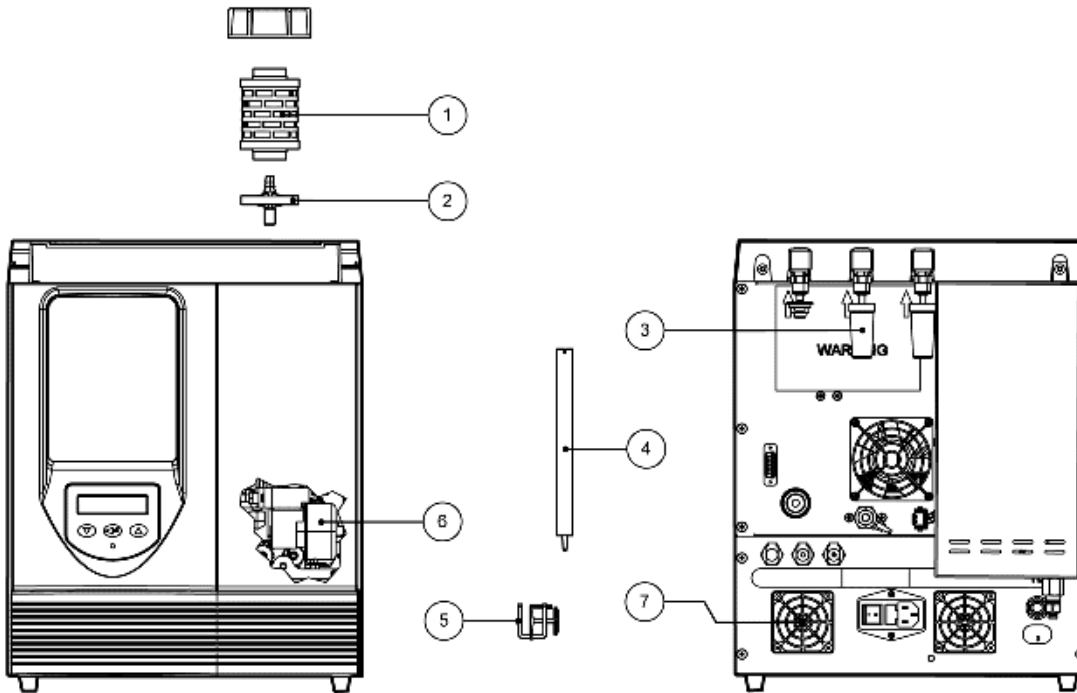
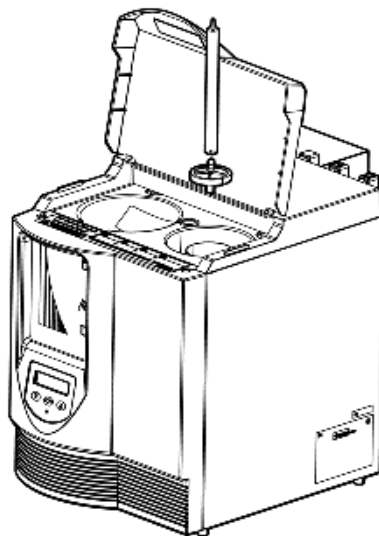

Figure 18
Figure 20
Wearing disposable gloves, remove the deionizer cartridge (figure 18, item 1) and discard. Extract the 100 micron water filter (figure 18, item 2) using the H2 filter replacement tool (figure 18, item 4). Push the tool over the filter so that the webs on the filter fit into the slots on the end of the tool. Unscrew the filter and remove it from the water bottle as shown in figure 20.
Remove the two environmental filters (figure 18, item 3) from the vent ports by pushing the push in fitting upwards to release. Fit the replacement filters and check that they are secure.
Remove the 4 retaining screws from each fan guard (figure 18, item 7). Fit the replacement fan guards and secure using the previously removed screws.